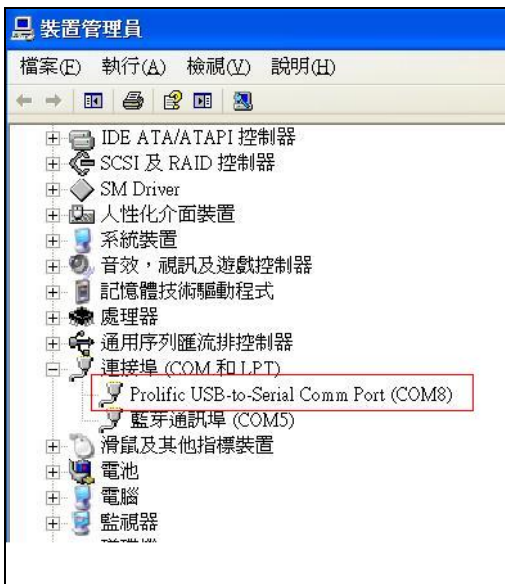

Figure 3-13 Prolific_USB -to- Serial Comm Port
Step 2: PC detects Prolific_USB -to- Serial Comm Port. (See Figure 3-13)